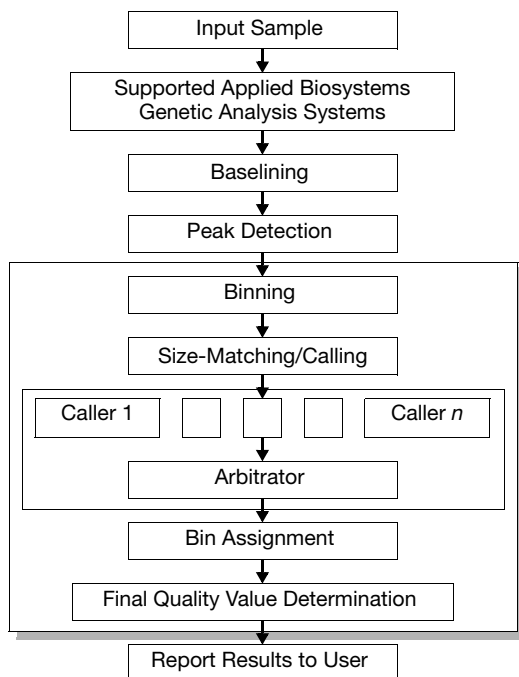
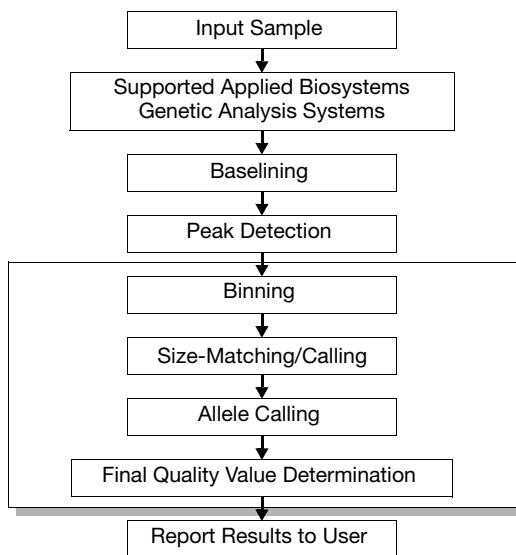

Figure 3-3 Microsatellite analysis data flow
Figure 3-4 SNPLEX™ System analysis data flow
**Data Flow** Figure 3-3 and Figure 3-4 on page 37 show the data flow in GeneMapper® Software. Standard signal processing is applied to the data before the data are delivered to the GeneMapper Software algorithms.